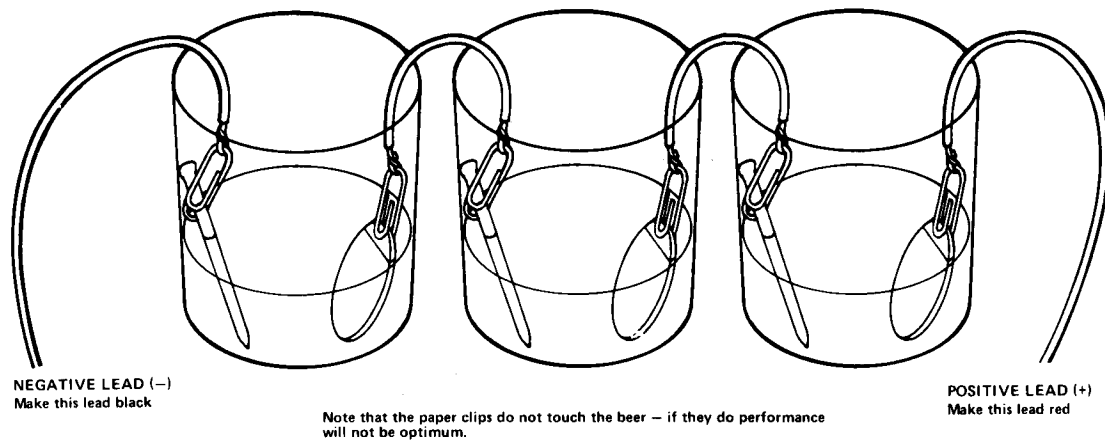

Figure 5
- (7) Make sure that the coin and nail in each glass are kept at opposite sides of the glass. Do not allow them to touch.
- (8) The three beer glasses now form three power cells connected in series. Figure 5 shows the polarity of this supply – the copper coins are the positive (+) side and the iron nails the negative (-). Connect the beer cells to your integrated circuit radio as shown in figure 5. Maximum energy is reached after about one minute. Listen in on the earphone and you should be able to tune radio stations in your area. If not, try an antenna and earth as mentioned previously.
- (9) When the bubbles in the beer disappear or the volume drops, it is time to replace the beer with a fresh brew.
- (10) You can get better performance by adding a fourth, even a fifth beer cell in series with the rest. Simply duplicate one of the other beer glasses, keeping the polarities the same. Do not exceed five glasses, however: the voltage developed by the beer cell may exceed the safe operating voltage of the integrated circuit and damage could occur to it.